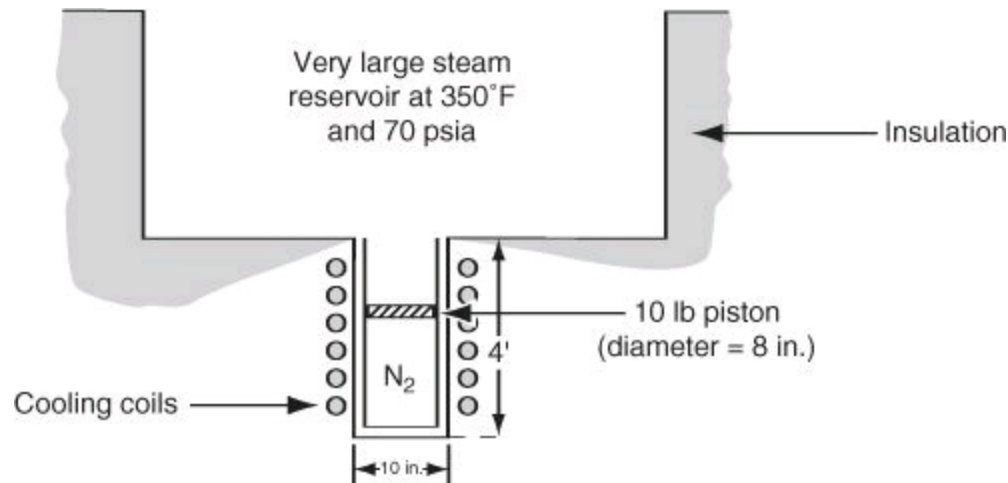

Figure P14.6
****14.6.** Nitrogen is being compressed by a piston as shown in Figure P14.6.